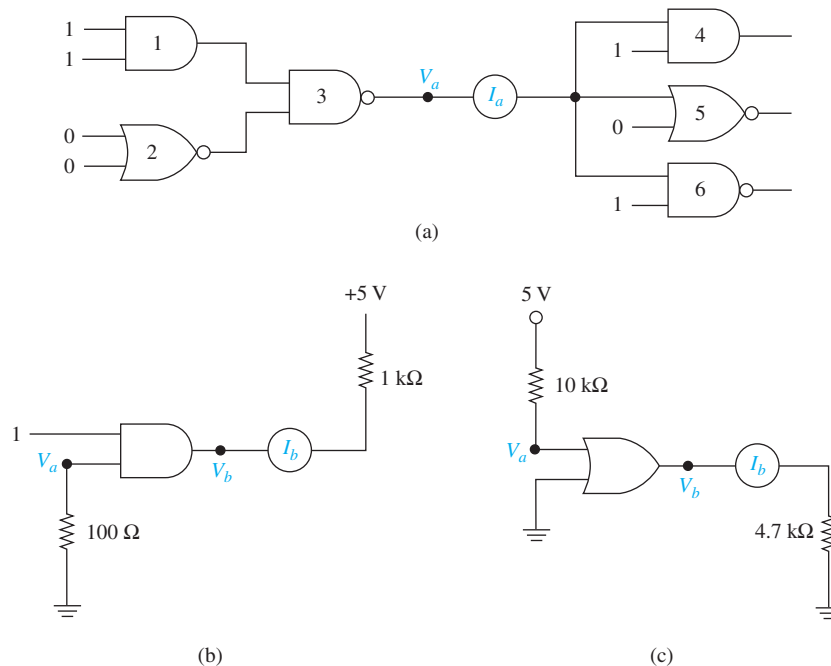

Figure 9-9 Voltage and current ratings.
Find the voltages and currents that are asked for in Figure 9-9 if the gates are all standard (74XX) TTLs.
- Find V_a and I_a for Figure 9-9(a).
- Find V_a , V_b , and I_b for Figure 9-9(b).
- Find V_a , V_b , and I_b for Figure 9-9(c).